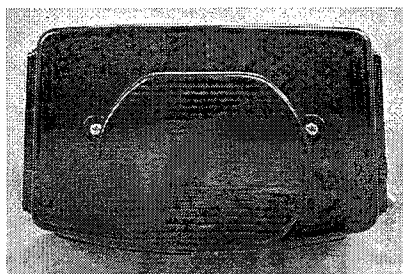

Figure 1
1. It is recommended that you first remove the taillight, which is to be converted from the motorcycle as shown in Figure 1. This will help the installation go along more smoothly.